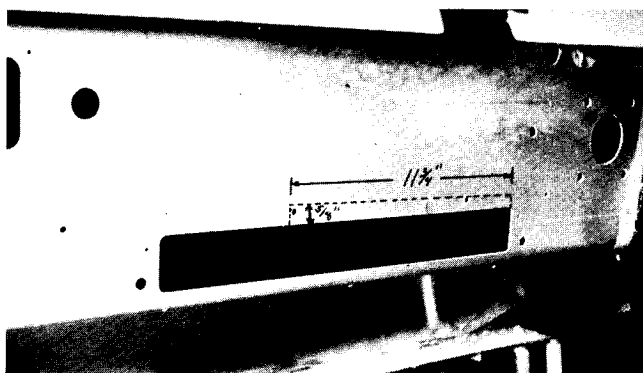
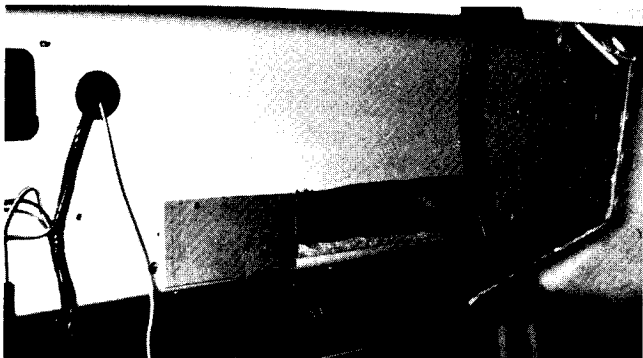

FIGURE 20
FIGURE 21
27. Before reinstalling the evaporator assembly to the motor home, it will be necessary to cut a 5/8" x 11-3/4" section out of the existing air passage hole in the firewall (Figure 20). The remainder of the hole should be covered by pop riveting a piece of sheet metal over it (Figure 21).